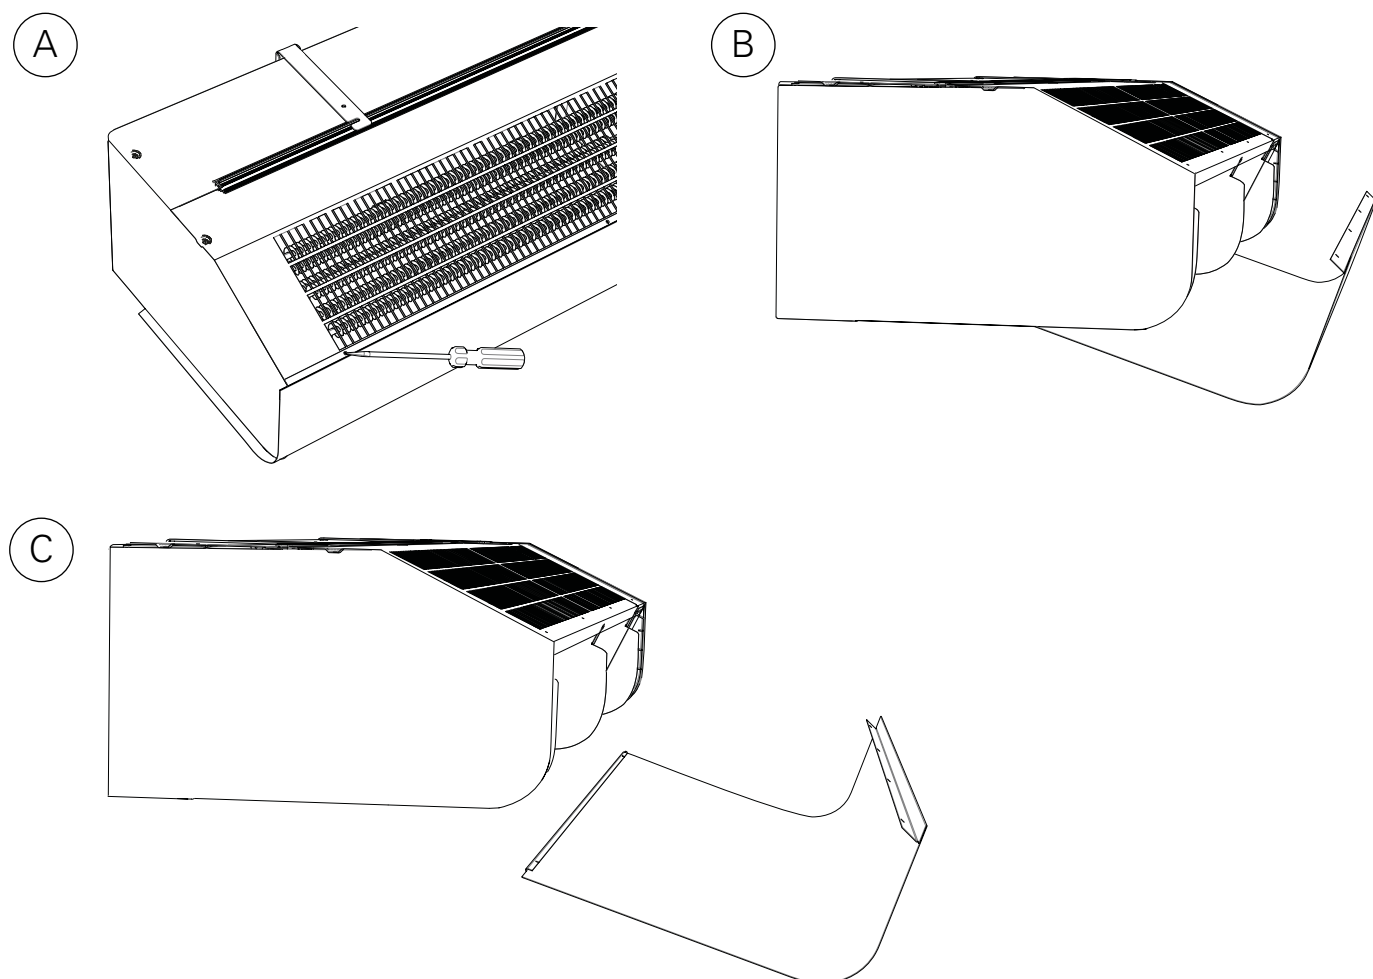

Fig. 3: Open the unit.
2. The front hatch is removed by removing the screws on the top of the unit and then detach the bent edge at the bottom. (Fig.3)